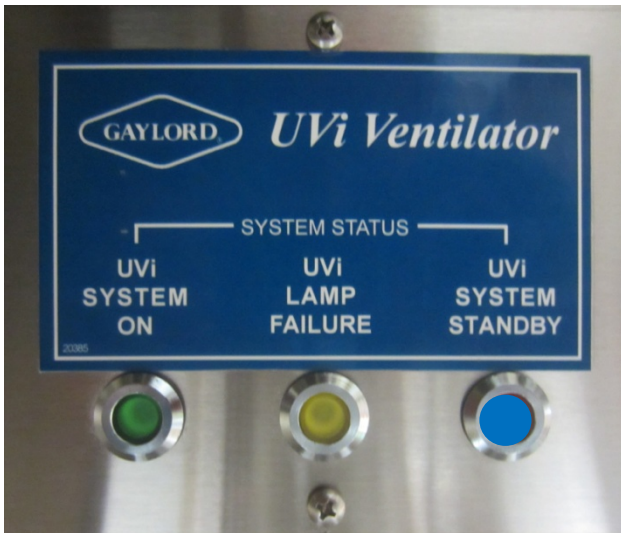

Figure 3-4-3
4. Once the exhaust fan reaches operating speed, the UV lamps will come on and the green UV Status Light on each Ventilator section will come on (Refer to Figure 3-4-3). Also the ESP Cells will come on and the green ESP CELL STATUS LIGHT will come on (Refer to Figure 3-4-4). The Ventilator is now in the operational exhaust mode. **Important Note:** Refer to your Command Center Technical Manual for specific text displayed when the Ventilator is in the operational exhaust mode.
Each Ventilator section contains a bank of UV Status Lights to monitor the UV System (Refer to Figure 3-4-3). There are three colored lights, Green, Yellow and Blue. They indicate the system status as follows: